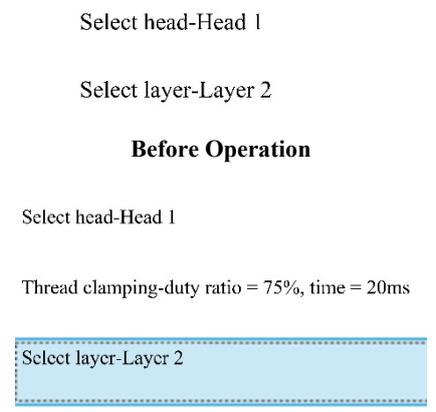

Fig. 5.10.11a Schematic Diagram of the Operation of the Stitch Head Starting State Command Set
③ After adding all commands, if there are any that need to be deleted or modified, just double-click the command segment to change the parameters and the parameter setting box will pop up. To delete a command, just select the command segment and click the Delete button. To move the command segment, just select the command and click the "↑" and "↓" buttons to move the command segment up/down.
④ Finally, click OK to save this default command set. After clicking the command processing, these commands will be added by default at the position of the stitch head (head 1). The operation diagram is shown in Fig. 5.10.11a below.